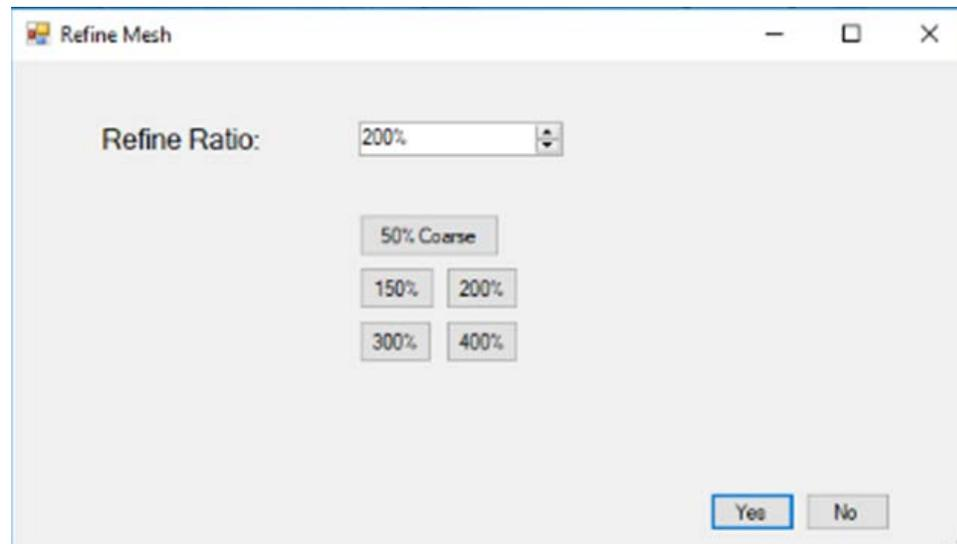

Figure 3-22. Refine mesh.
1. Select Menu Mesh>Refine Mesh. A form will appear (Figure 3-22).